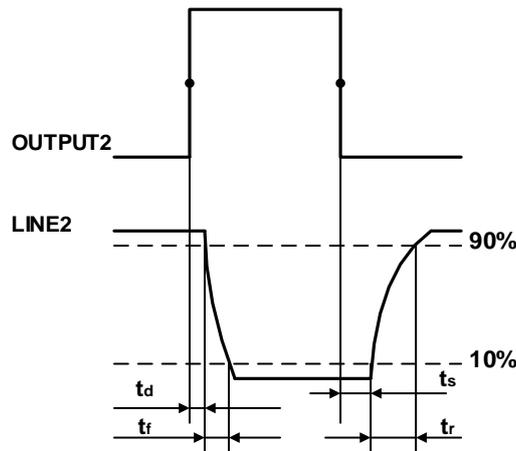

Figure 7-9 Parameter of opto-isolated output circuit
- Rising time delay = t_r+t_d : $<20\mu\text{s}$ ($0^\circ\text{C}\sim 45^\circ\text{C}$) (parameter description as shown in Figure 7-9)
- Falling time delay = t_s+t_f : $<20\mu s$ ($0^{\circ}C\sim 45^{\circ}C$) (parameter description as shown in Figure 7-9)
- Rising time delay = t_r+t_d : $<20\mu\text{s}$ ($0^{\circ}\text{C}\sim 45^{\circ}\text{C}$) (parameter description as shown in Figure 7-9)
- Falling time delay = t_s+t_f : $<20\mu\text{s}$ ($0^{\circ}\text{C}\sim 45^{\circ}\text{C}$) (parameter description as shown in Figure 7-9)